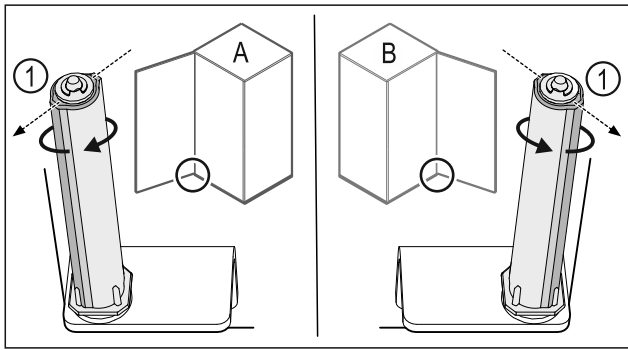

Fig. 38 Left-hinged (A) / Right-hinged (B)
- Turn the closing system against the resistance until the bar of the closing system Fig. 38 (1) points outwards.